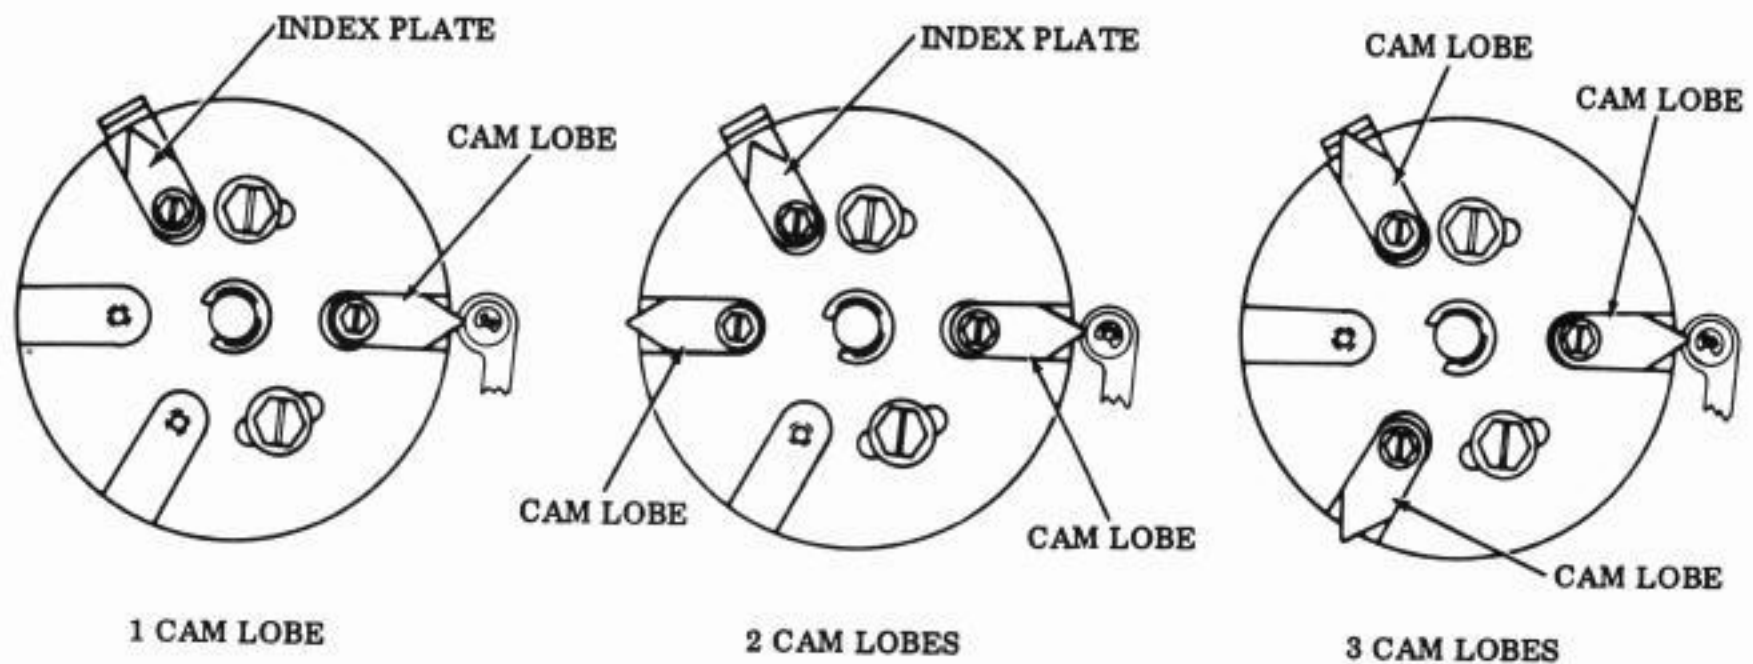

Figure 3 - Position of Cam Lobes
2.11 The modification kits and the form lengths they will handle are shown in the following chart. The chart also shows how many cam lobes are included in each kit with the resulting length of form out when these cam lobes are installed. Figure 3 shows the various positions of the cam lobes.